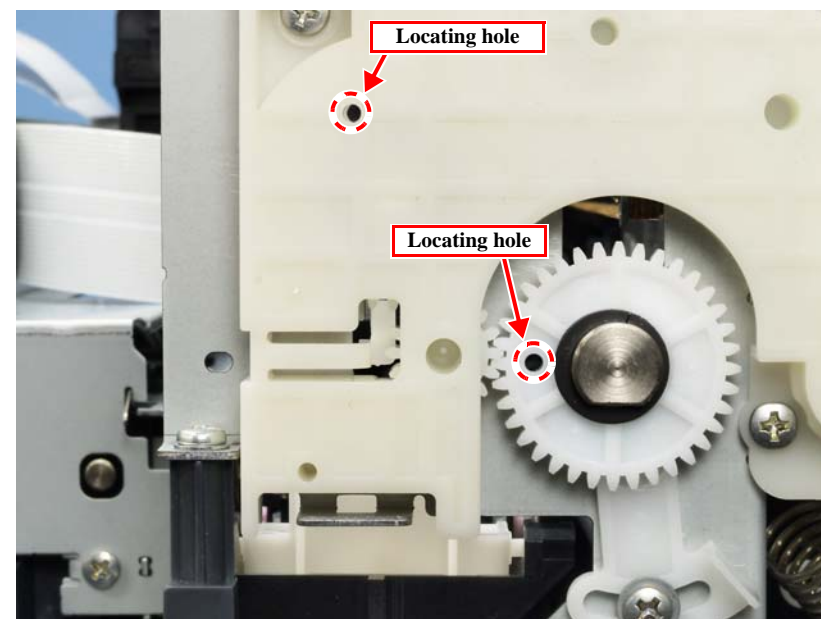

Figure 5-8. PG Position at PG Adjustment
3. Check that the APG Unit and the carriage are in the PG-position. (See Figure 5-8.)